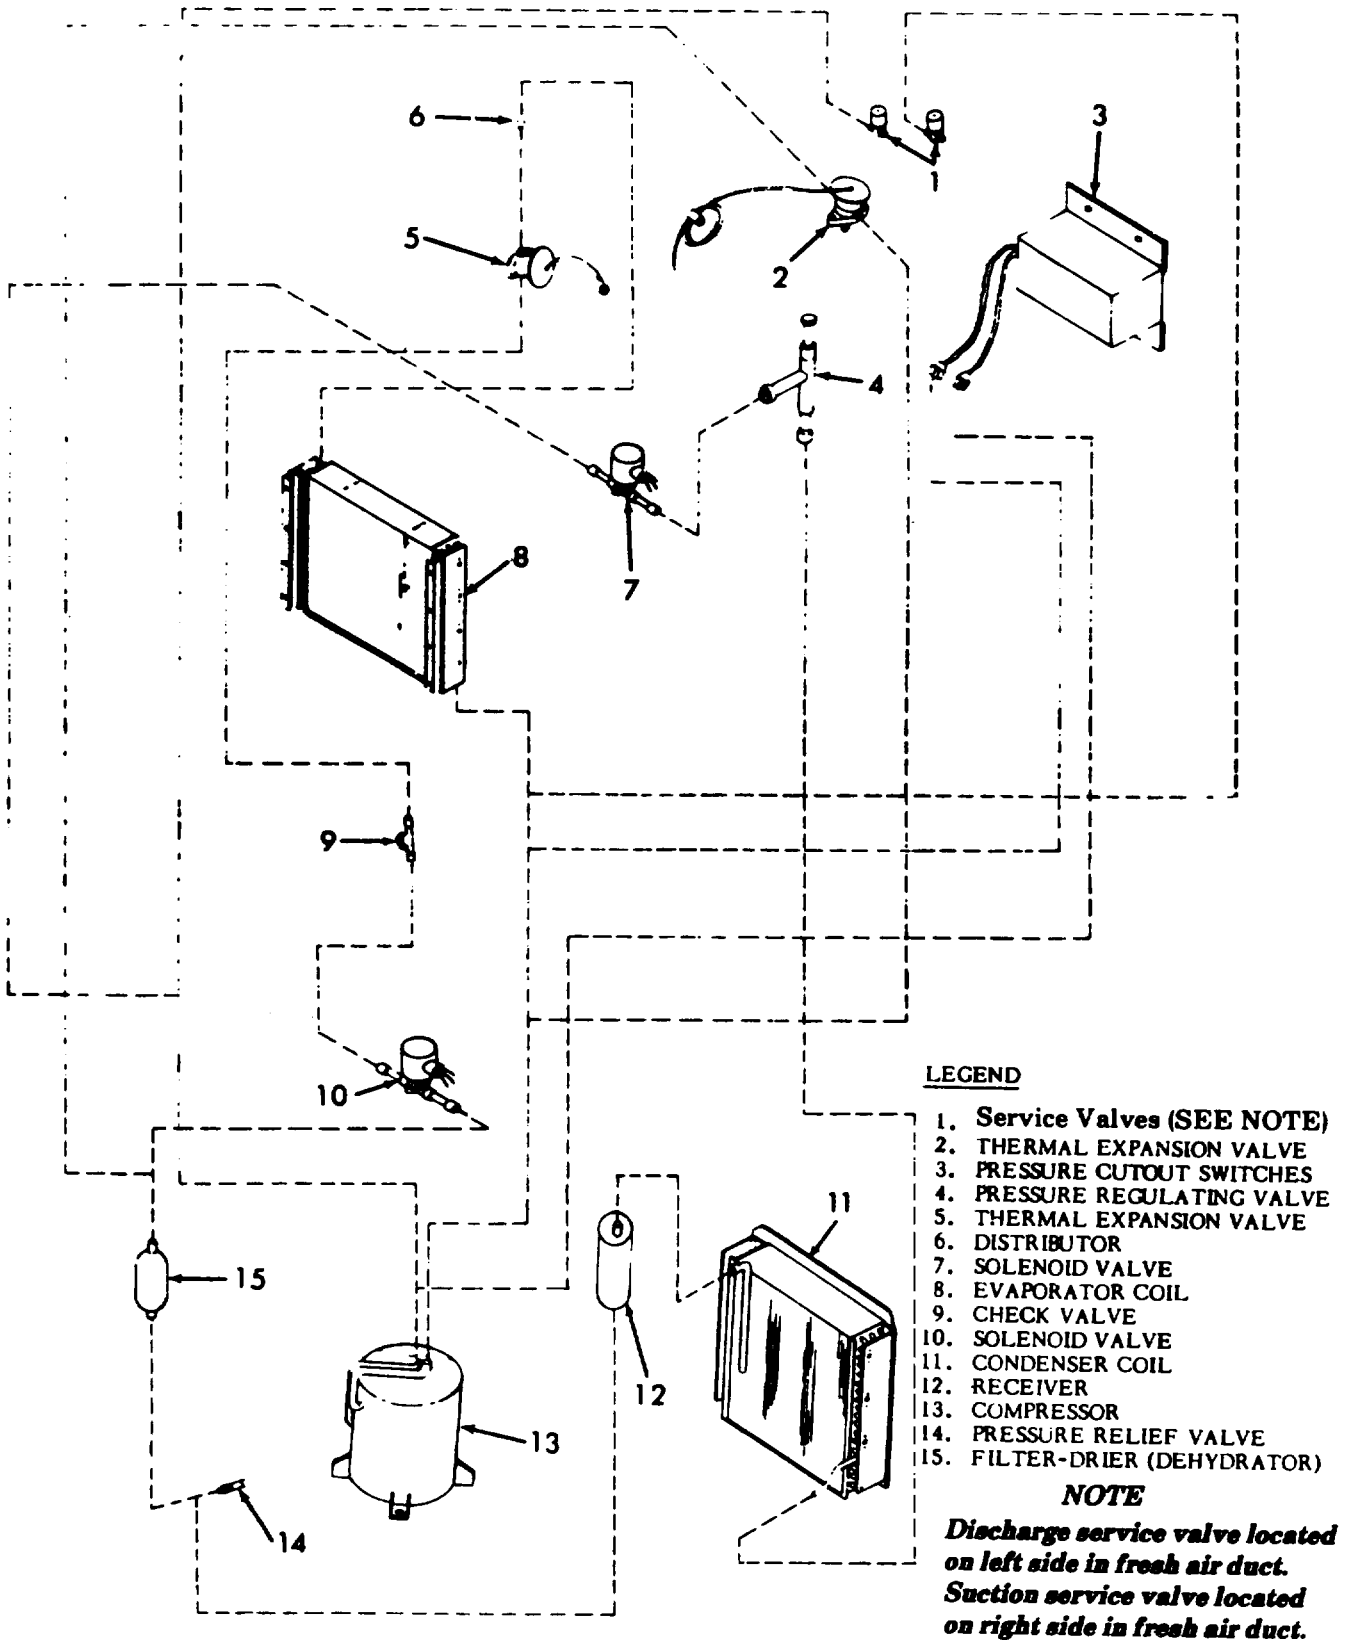

Figure 5-8. Refrigeration Component Layout
(1) Remove five screws from the fresh air screen, and remove the screen to gain access to the refrigeration service valves.
(2) Refer to figure 5-8 for identification of service valves. Discharge the system in accordance with paragraph 5.22.a.
(3) Remove coil assembly as directed in paragraph 5.49.
(4) When refrigerant is completely discharged from the system, remove the two screws that fasten the tube and plunger assembly to the body. Remove tube and plunger assembly, O-ring and diaphragm, and discard.
(5) If valve body is serviceable install replacement parts. If valve body is warped or is otherwise unserviceable, connect a cylinder of dry nitrogen to the discharge service valve, and establish a flow of 1-2cfm (0.1 - 0.2 M³/min) through the system. Debraze the valve body from the refrigerant tubing.
(6) Remove two mounting screws attaching the valve body to the mounting bracket. Remove the solenoid valve body.
5.52. Description (See figure 5-8).
- b. Refer to figure 5-8 for identification of service valves. Discharge the system in accordance with paragraph 5.22.a.
- (1) Remove 18 screws and washers from the four sides of the fabric cover, and remove the fabric cover.
- (2) Remove 15 screws and packing washers from the top panel, and five screws from the rear flange. Remove the top panel.
- (3) Remove the air intake grille by turning six can-lock studs clockwise. Remove the air filter by removing two screws from the retainer and pulling out the filter.
- (4) Unscrew two panel fastener screws in the upper edge of the lower panel, and remove the panel.
5.62. Description (See figure 5-8).
5.66. Description (See figure 5-8).